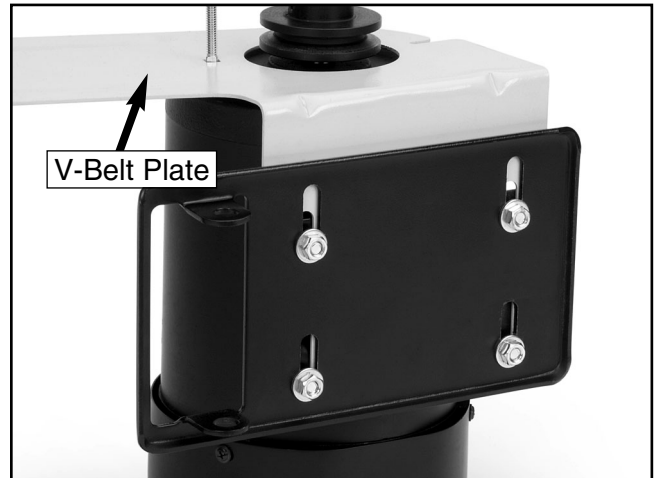

Figure 19. Installed V-belt plate.
- Slide the v-belt plate between the motor and the motor plate and over the hex bolts (**Figure 19**).